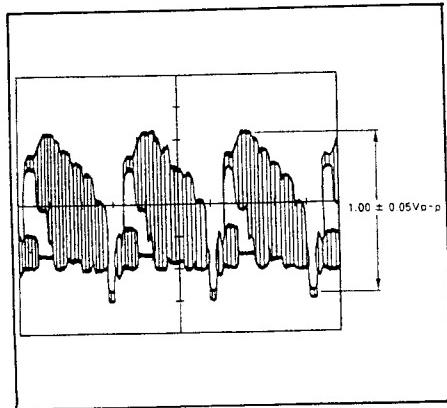

Fig. II-88 20 $\mu\text{sec}/0.2 \text{ V}$
- (1) Connect the pin 4 of IC802 (Audio P.C.B.) to ground via a resistor of 10 Kohms.
- (2) Playback the alignment tape.
- (3) Observe the waveform at pin 4 of Audio P.C.B. while monitoring the playback sound.
- (4) If the waveform is not clear (doubled, etc.) and/or there is a noise in playback sound, adjust the VR801 to make the waveform as shown in the Fig. II-88.